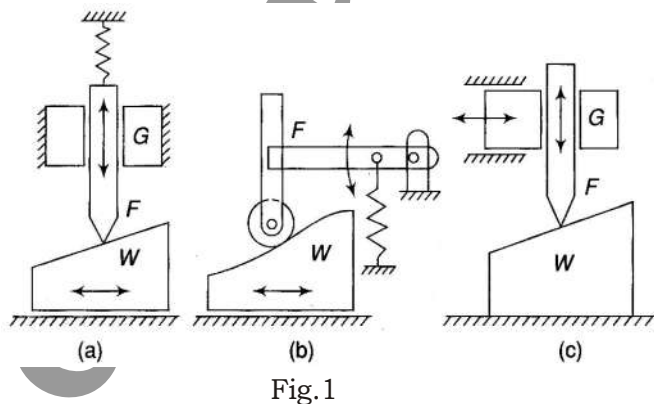

Fig.1
(i) Knife-edge follower: It is quite simple in construction. Figure 1(a) shows such a follower. However, its use is limited as it produces a great wear of the surface at the point of contact.
(ii) Roller follower : It is a widely used cam follower and has a cylindrical roller free to rotate above pin joint [Figs 1(b)]. At low speeds, the follower has a pure rolling action but at high speeds, some sliding also occurs.
- (i) **Reciprocating Follower :** In this type, as the cam rotates, the follower reciprocates or translates in the guides [Fig. 1(a)].
- (ii) **Oscillating Follower :** The follower is pivoted at a suitable point on the frame and oscillates as the cam makes the rotary motion [Fig. 1(b)].